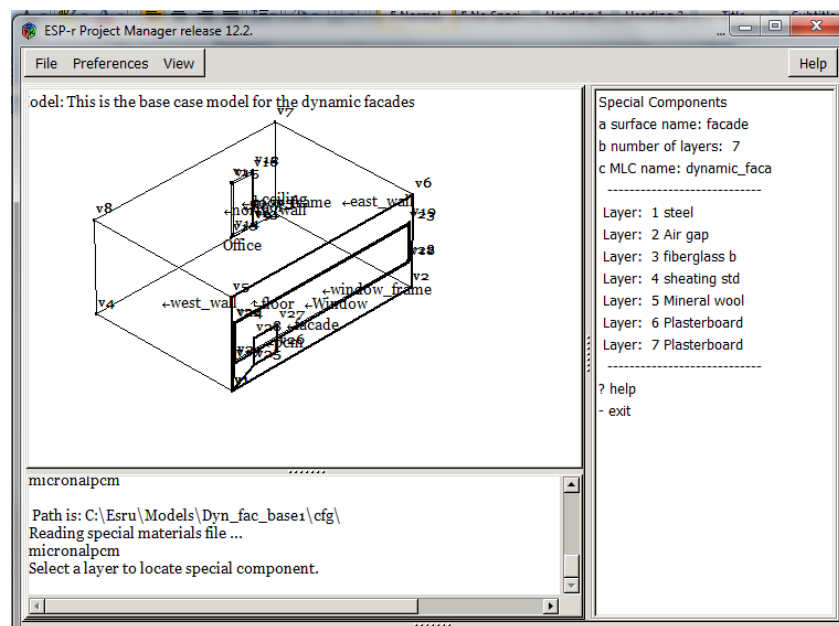

Figure 13
**Step 13:** The programme will then ask in which layer of material within the chosen wall the phase change materials are to be added and this is entirely dependent on the structure of the building. In the case of our project we put it on the innermost layer of material, therefore, click> Layer: 7 *plasterboard* (figure 13).